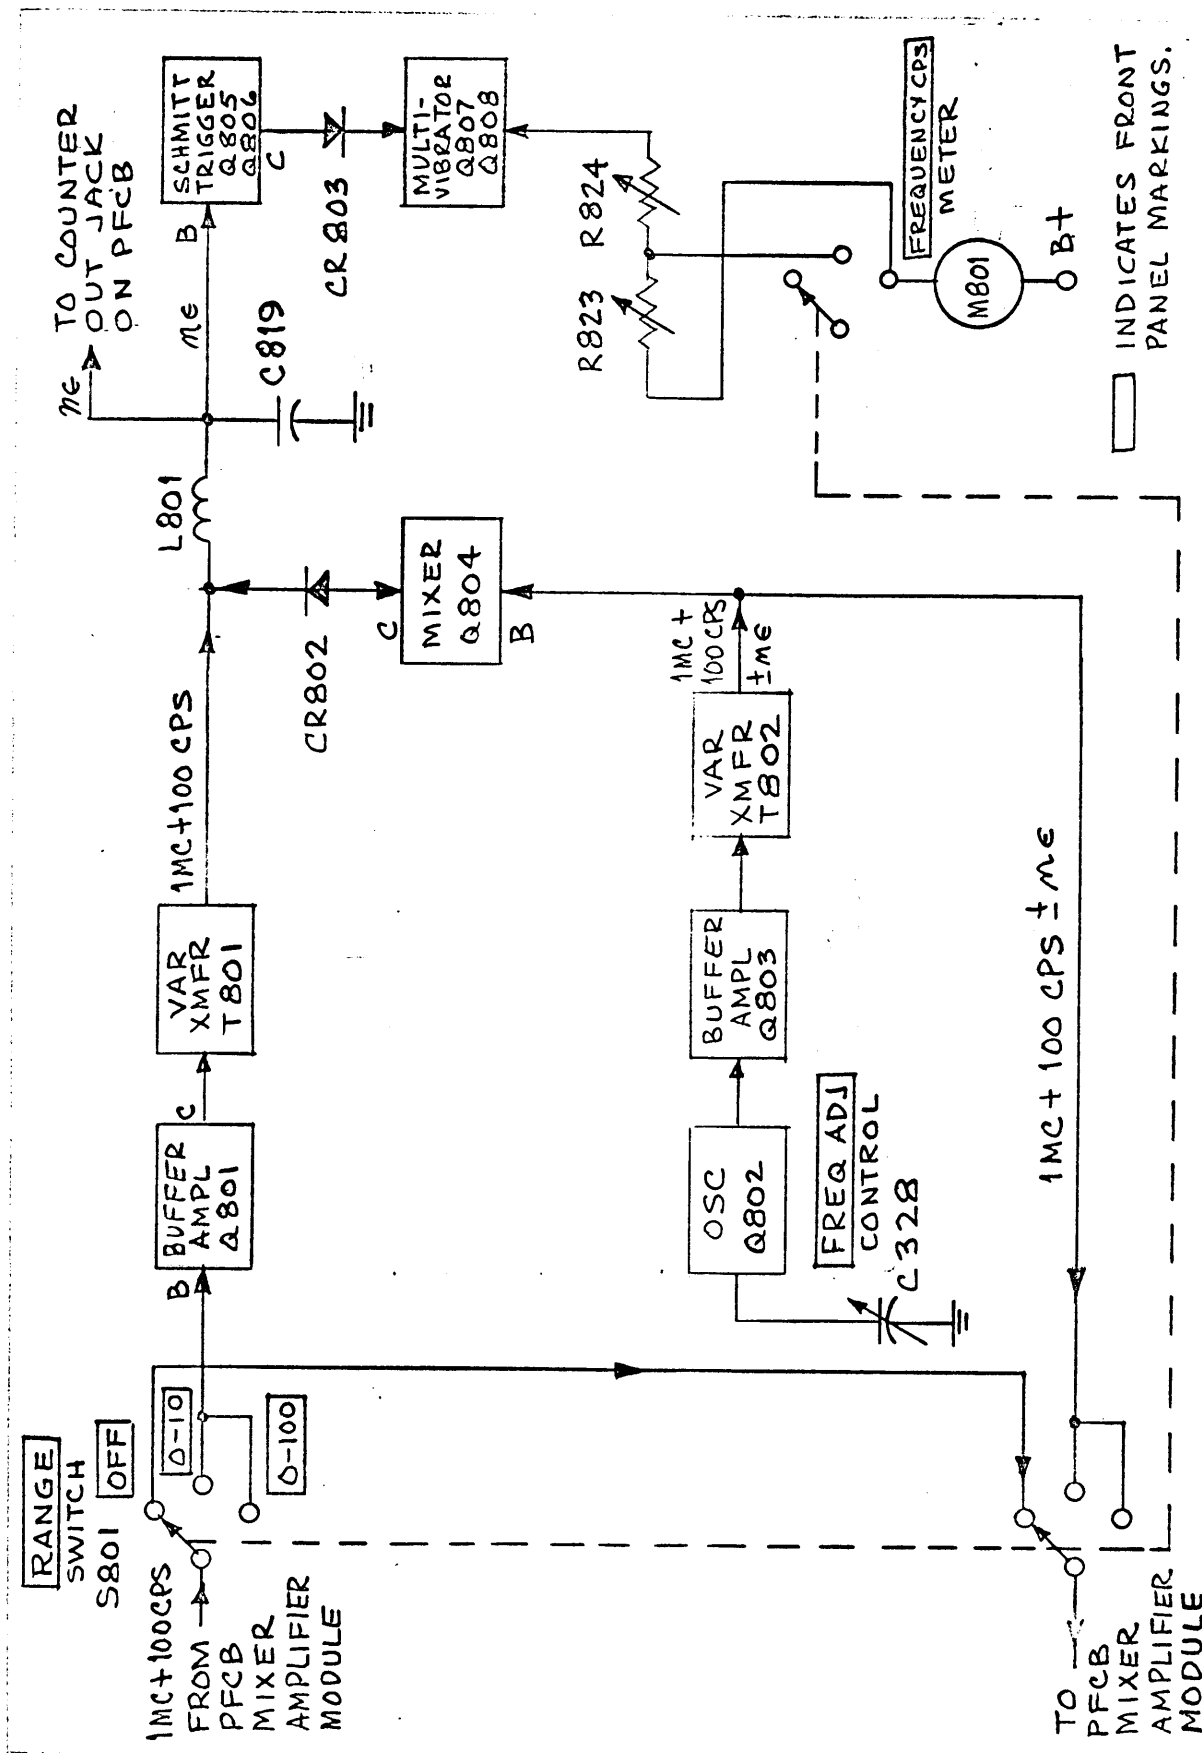

FIGURE 4-2 DOPPLER CORRECTOR, FUNCTIONAL BLOCK DIAGRAM
b. FUNCTIONAL DESCRIPTION. - The Doppler Corrector (figure 4-2), is a transistorized unit comprised of two buffer amplifier stages Q801 and Q803, an oscillator stage Q802 and a mixer stage Q804. It contains controls for adjusting, calibrating and metering the doppler correction frequency.